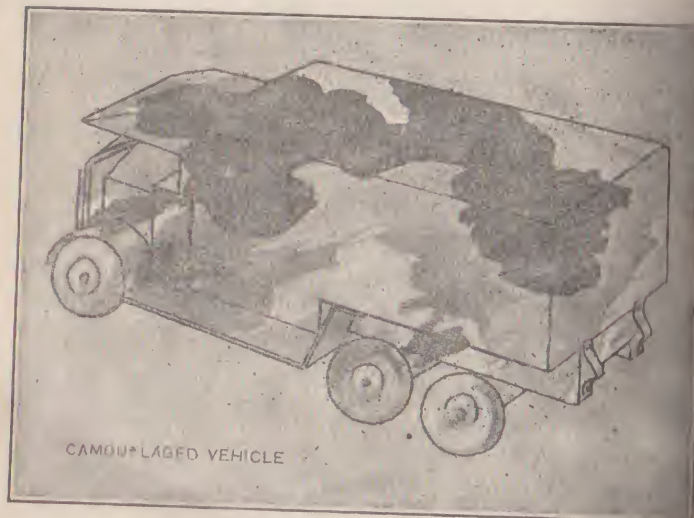

FIG. 1.
- 3. *Concealment from air observation*.—Primarily against photography as, except for movement and differences of colour (as opposed to tone), anything which will deceive the camera will deceive an observer flying at normal heights. Figure 1 shows an example of "disruptive painting"